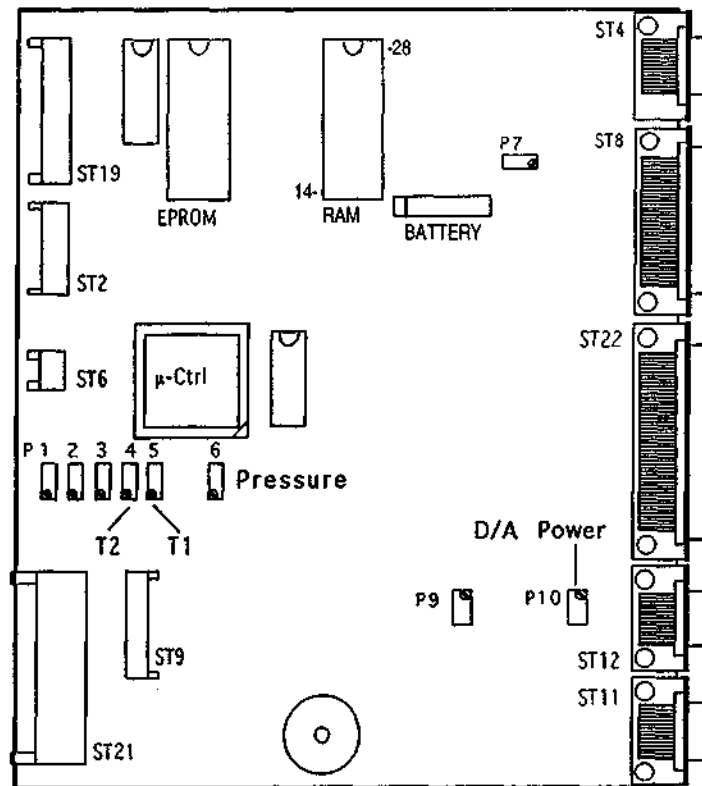

Figure 1 = CPU card, top view of the main components
- Detect (with diagram in Figure 1) the position of RAM and battery in the CPU board.
The red display on the front frame of the unit shows absurd values e.g. 1 or 1323	<p>A) If the display shows figure 1:</p> <ul style="list-style-type: none"> - replace the ATC-300-S card (see paragraph 5.12). <p>B) If the display shows ± 1323:</p> <ul style="list-style-type: none"> - check connection between the thermocouple and the ATC-300-S card. - replace the thermocouple.